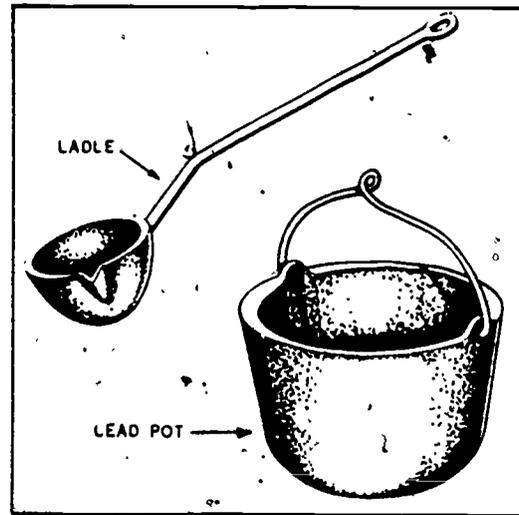

Figure 3-41 Lead pot and ladle.
*Lead pot and ladle.* The lead pot, shown in figure 3-41 is used with the melting furnace as a container in which to heat lead. It is placed on top of the melting furnace when in use. A ladle, also shown in figure 3-41, is used to dip the molten lead from the pot and pour it into the joint when you are making soil pipe joints. Although the melting and handling of hot lead in plumbing work is a commonplace procedure, you must take all necessary precautions to avoid being burned.